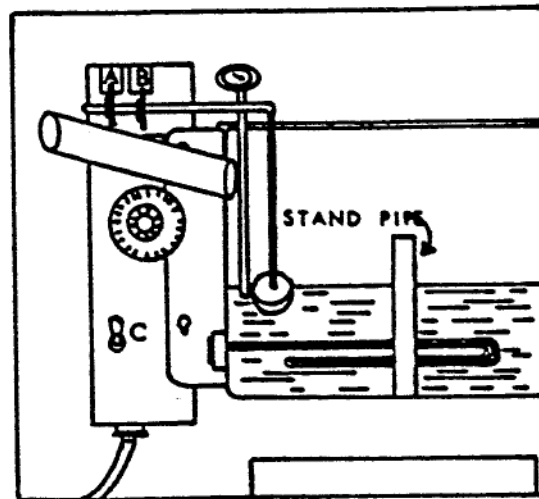

fig. 4
1. The detergent tank is equipped with a float control that operates two cam operated switches. (see Fig. 4)
Ensure stand pipe is in place. Fig 4. Put switch "C" to AUTO POSITION. Water will flow until proper level is reached. It will shut off automatically.